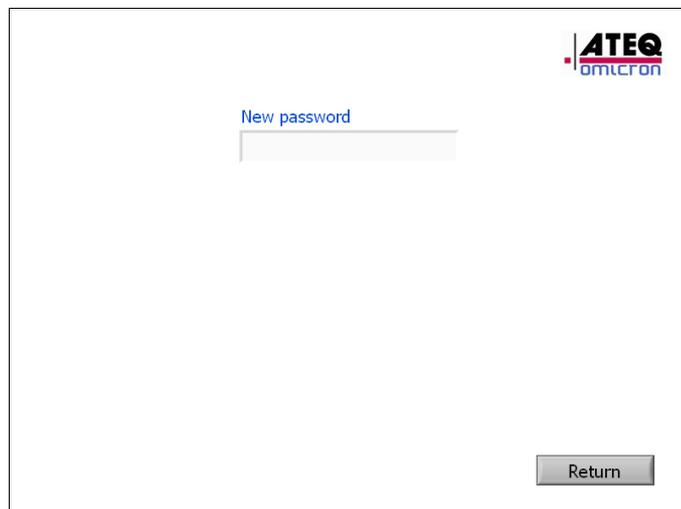

Figure 44
- If the password is correct, a window appears, where the user is requested to enter twice the new password and validate (Figure 44 and 45),